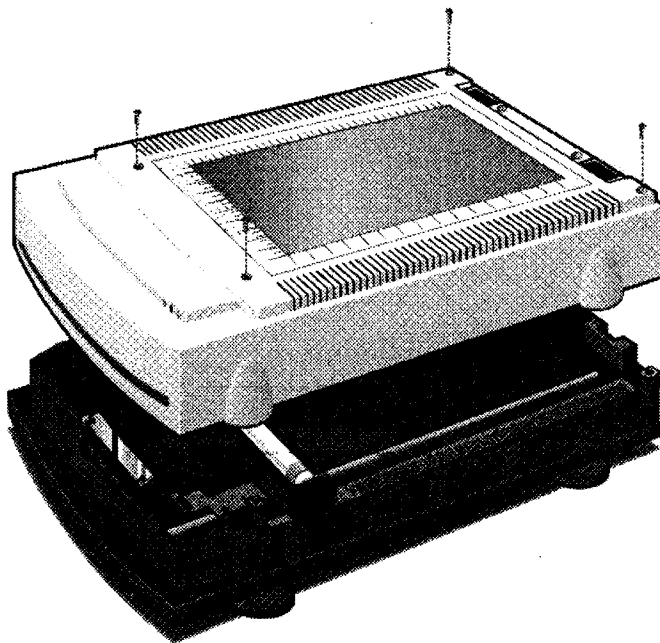

Fig. 5.2 Removing the screws and the housing of the densitometer.
7. Remove the 4 top screws as indicated in Figure 5.2.
8. Remove the housing of the densitometer as shown in Figure 5.2.